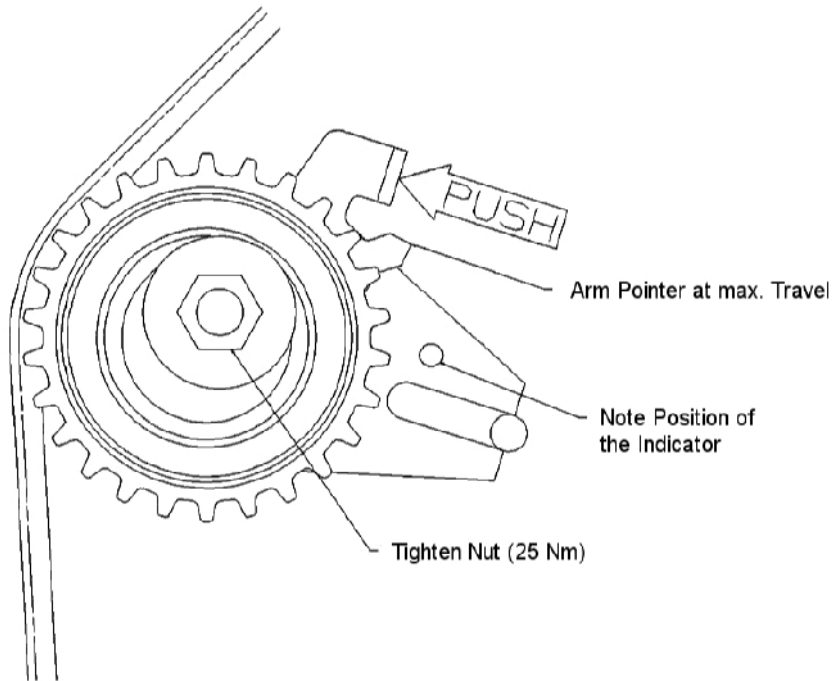

Figure 4: Proper Initial Setup of Tensioner.
7. Push the tensioner into the belt using the installation tool. The Tensioner assembly will move against the belt and the Arm will eventually start to move COUNTERCLOCKWISE. Continue pushing the tensioner until its maximum travel position is reached (See Figure 4).
9. Rotate the crankshaft two (2) complete revolutions manually for proper seating of the belt until the crankshaft is repositioned at the TDC position.